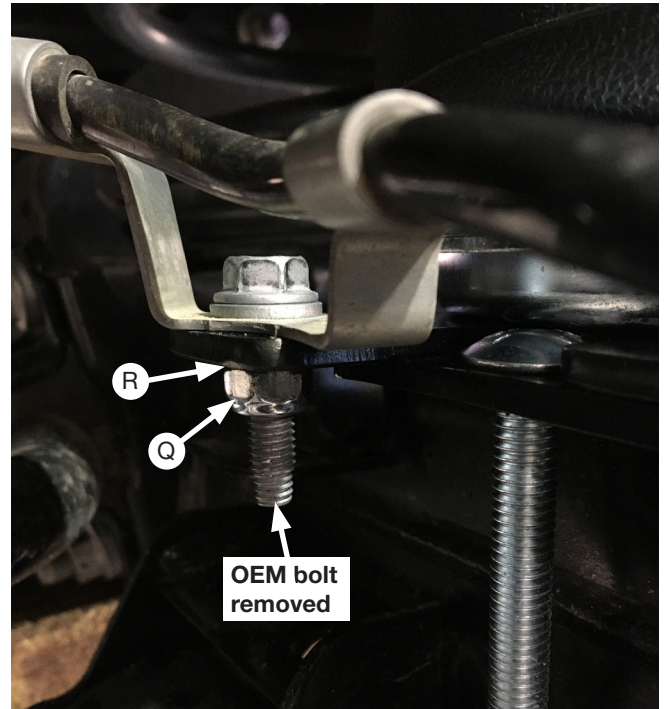

Fig. 22
- Remove the OEM brake line clips on the axle and flip them around (Figs. 22 & 23) or push the line towards the axle to bend it out of the way.